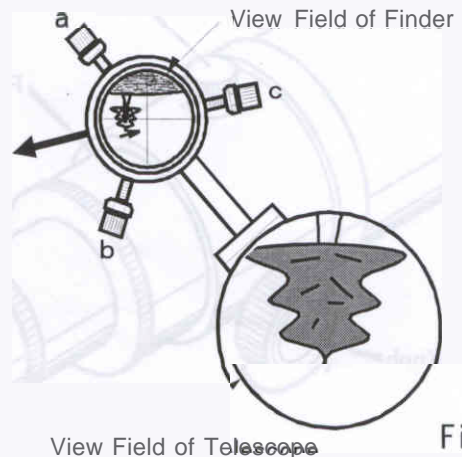

Fig. 12
2. In order to move the crosshair in the direction of the arrow, first loosen screw (a) and tighten (push) the finder with screw (c). This procedure will move the crosshair in the desire direction. The top of the finder will move in the opposite direction and the object will move in the direction of the smaller arrow. Refer to Fig.12.